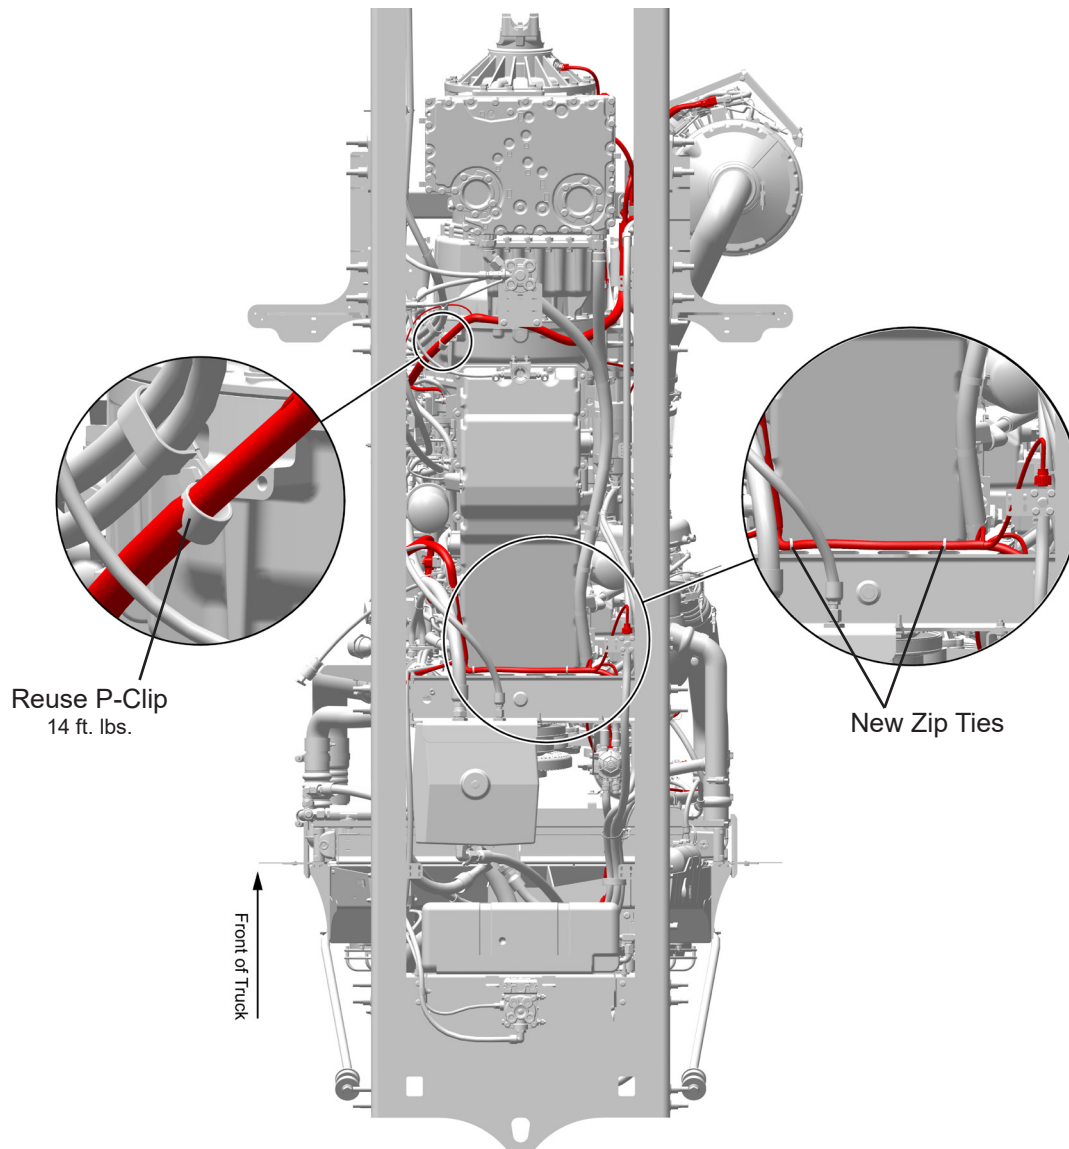

Figure 2
4. Route transmission side of harness under engine/transmission to left side of vehicle, see Figure 2.
5. Route radiator side of harness under front of engine to left side of vehicle, see Figure 2.